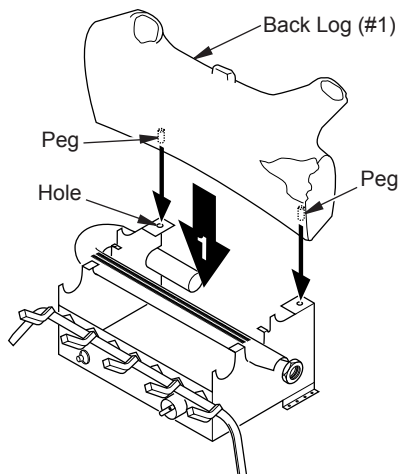

Figure 18 - Installing Back Log
1. Locate pegs on the bottom of back log (#1). Slide these pegs into the holes in the grate base behind the burner (see Figure 18).